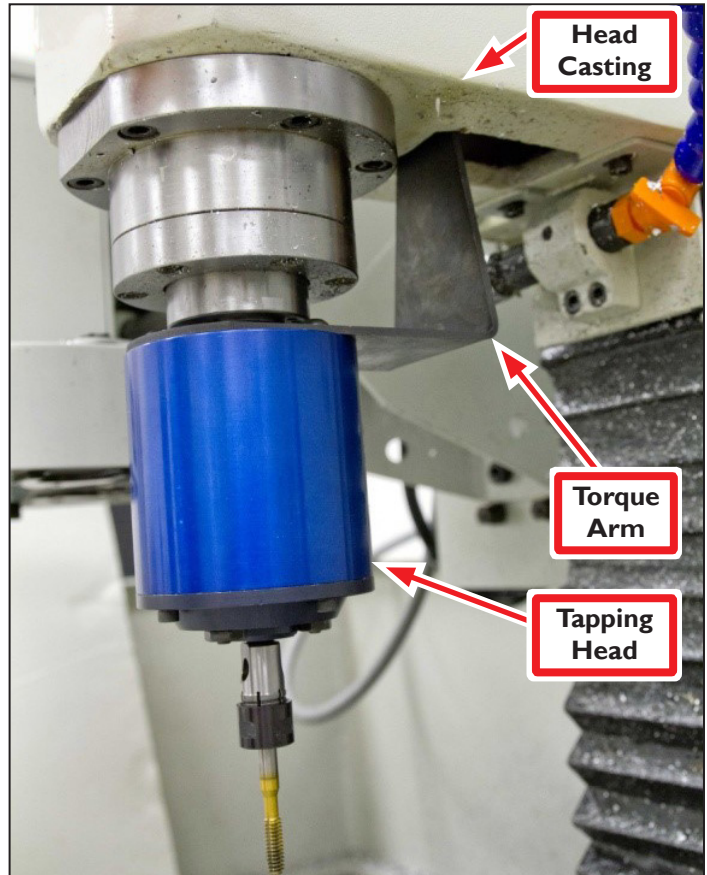

Figure 6
10. Install Tapping Head into spindle; position Torque Arm inside cavity on the underside of Head Casting (see **Figure 6**).